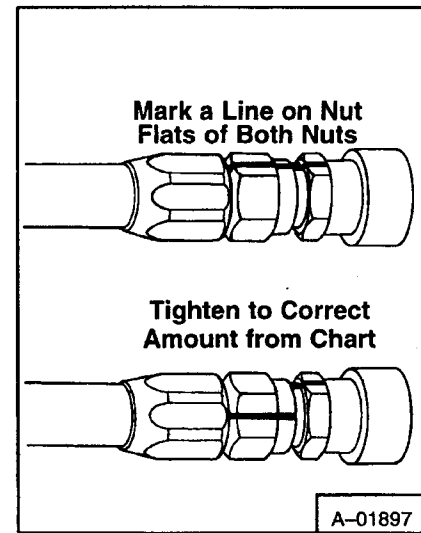

Fig. 4-61 Tightening Flared Fittings
- (1) Tighten the nut until it makes contact with the seat.
- (2) Make a line across the *flats* of both the male and female parts of the connection (Fig. 4-61).
- (3) Use chart below to find correct tightness needed.